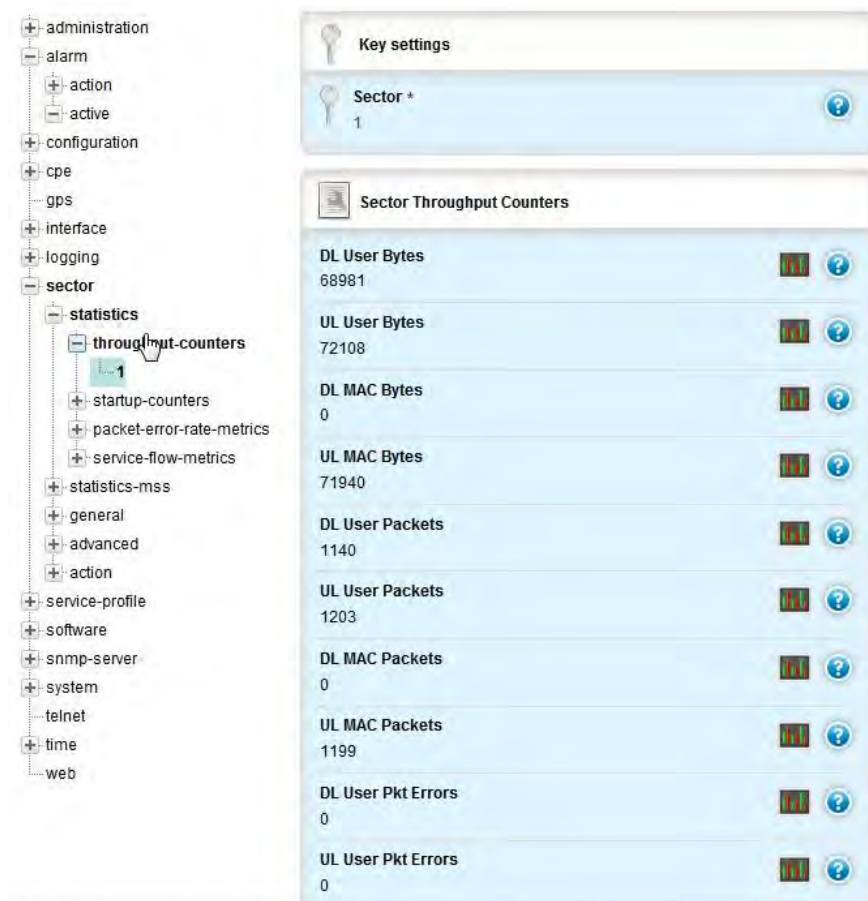

Figure 145 Sector Statistics Throughput Counters
- For the ***throughput-counters*** menu option, the following ***Sector Throughput Counters*** are displayed (Figure 145):